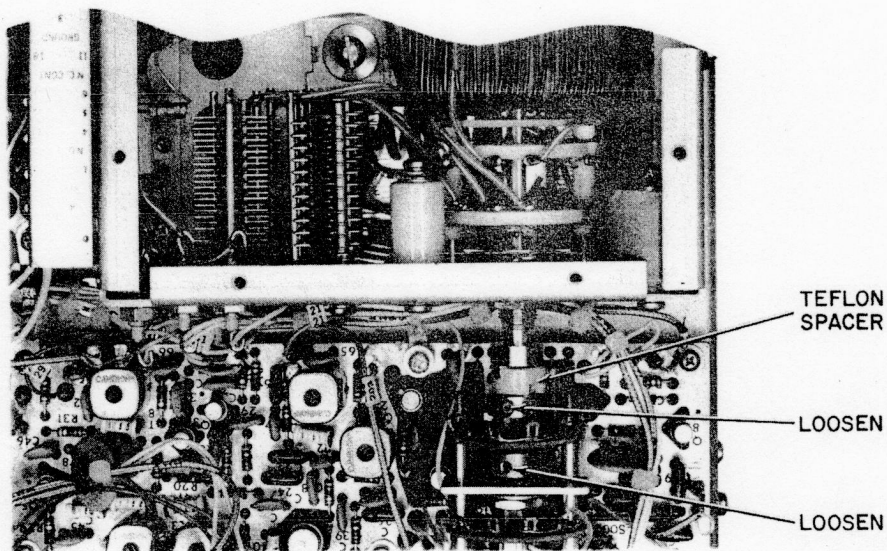

Figure 4-16. Coupling Collars for Front End Board "MHZ" Selector Switch
2. Loosen the four Allen setscrews (use a 0.050 and a 1/16 Allen wrench) in the coupling collar shown in Figure 4-16. Pull the "MHZ" knob, with it still attached to the shaft, directly out of the front panel.